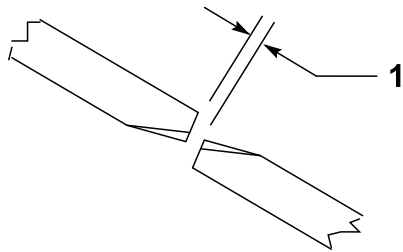

Figure 28
To ensure proper operation of the cutting unit, there must be a 10 to 16 mm (0.38 to 0.62 inch) clearance between the tips of the side and center mower-deck blades (Figure 28).
2. Rotate a center and adjoining side blade so the blade tips are aligned. Measure the distance between the blade tips (Figure 28).